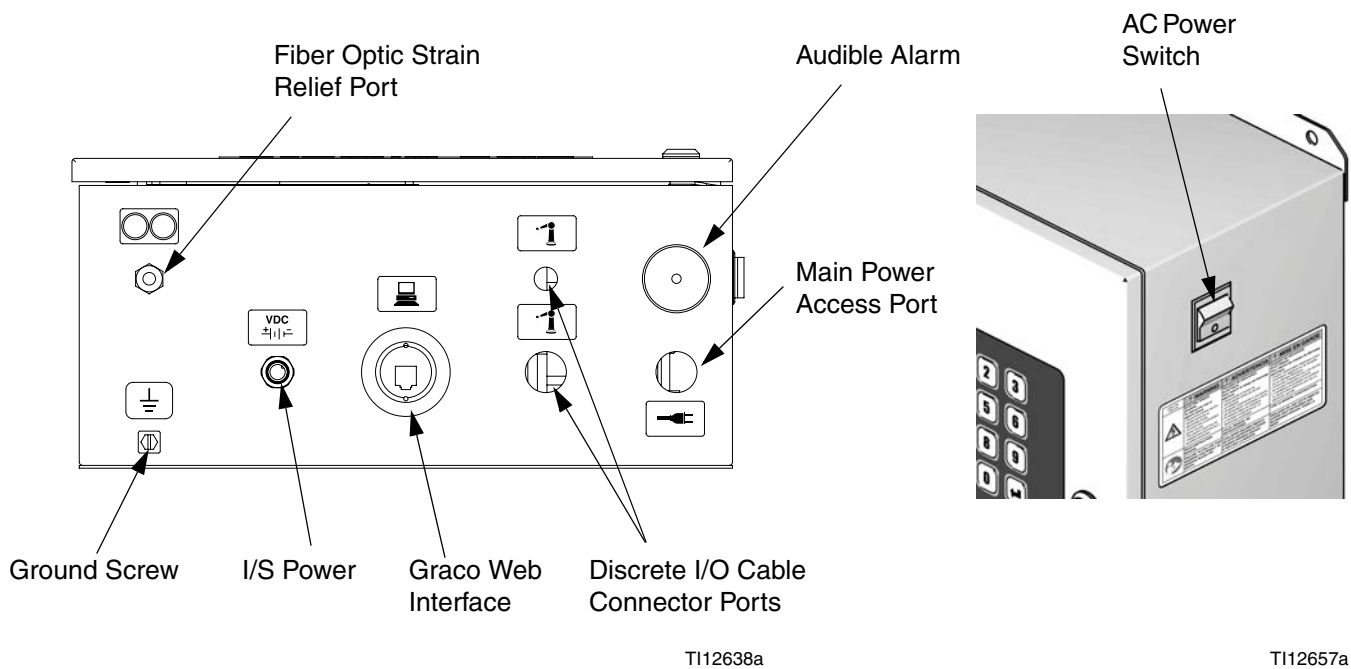

FIG. 10. EasyKey Connections and AC Power Switch
- The input power access port  is 22.4 mm (0.88 in.) diameter. It accepts a bulkhead strain relief fitting or conduit. See FIG. 10.
1. Provide power to the EasyKey. Install a bulkhead strain relief or conduit bulkhead through the EasyKey port . See FIG. 10.
1. Connect the appropriate Fluid Station Power Cable end to the EasyKey connector $\overset{\text{VDC}}{\pm}| | \text{—}$. See FIG. 10.
3. The Fiber Optic Cable is shipped from the factory attached to the EasyKey connector . See FIG. 10.